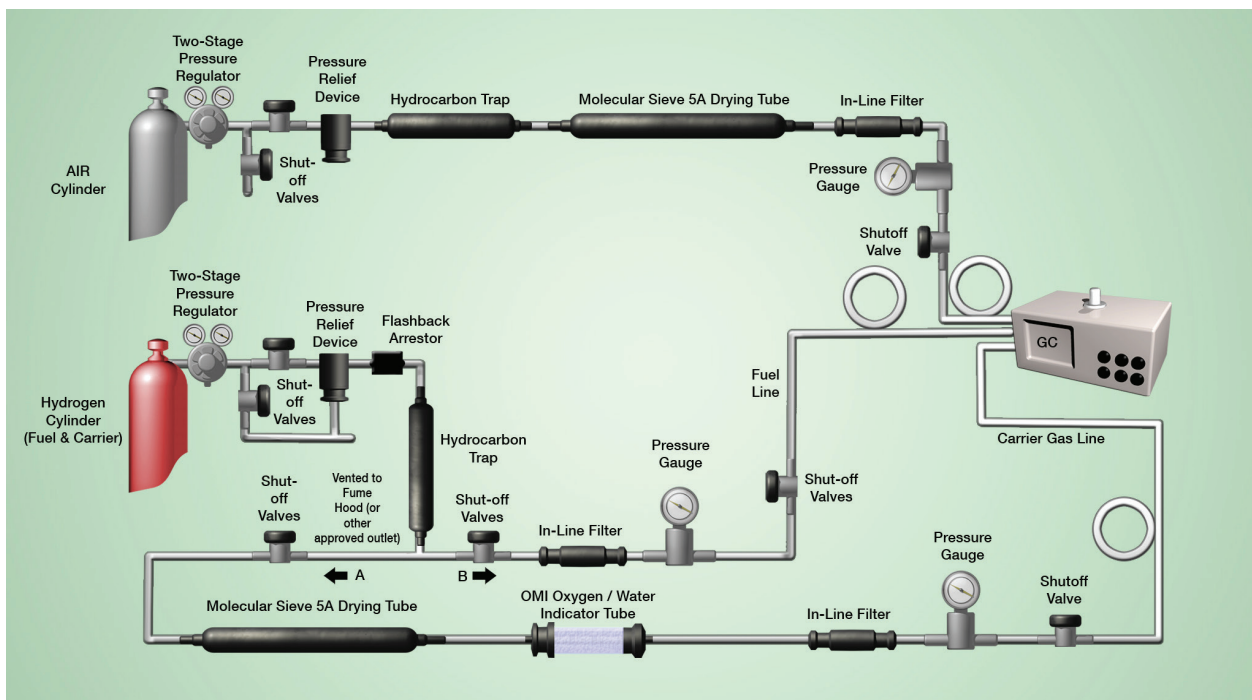

Figure 2: Ideal Configurations for a Single-GC System: Hydrogen Used as Carrier and Fuel Gas
3. Add new make-up gas line preferably for use with nitrogen. See Figure 2.